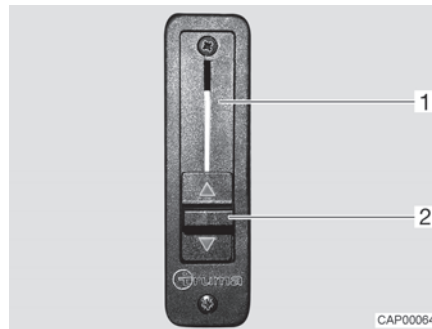

Fig. 5 Sliding regulator for branch block
- Push the sliding regulator (Fig. 5,2) fully upwards. The branch block (Fig. 5,1) is open. The living area heater also heats the windscreen.
- Push the sliding regulator (Fig. 5,2) fully downwards. The branch block is closed. The living area heater and the heater of the base vehicle are disconnected from each other.